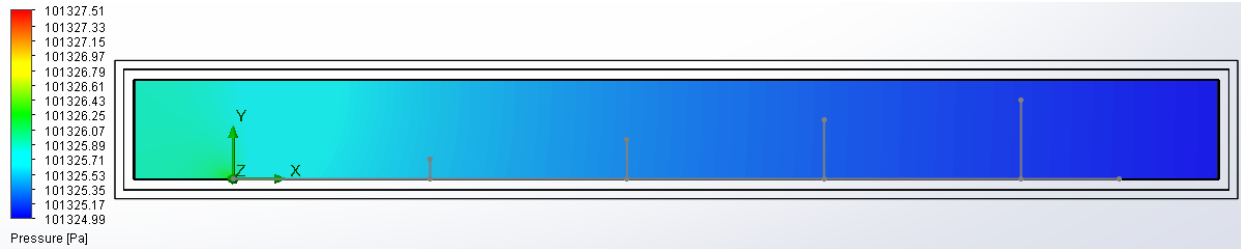

Figure 2.23a) Pressure distribution along the flat plate.
- Right click on  Cut Plots in the  **Flow Simulation analysis tree** under **Results** and select **Insert....** Select the **Front Plane** from the  **FeatureManager design tree**. Slide the **Number of Levels** slide bar to 255. Select **Pressure** from the **Parameter** drop down menu. Click OK  to exit the **Cut Plot** window. Figure 2.23a) shows the high pressure region close to the leading edge of the flat plate. Rename the cut plot to **Pressure**. You can get more lighting on the cut plot by selecting **Flow Simulation>>Results>>Display>>Lighting** from the SolidWorks menu. Right click on the **Pressure Cut Plot** in the **Flow Simulation analysis tree** and select **Hide**. Repeat this step but instead choose **Velocity (X)** from the **Parameter** drop down menu. Rename the second cut plot to **Velocity (X)**. Figures 2.23b) and 2.23c) are showing the velocity boundary layer close to the wall.